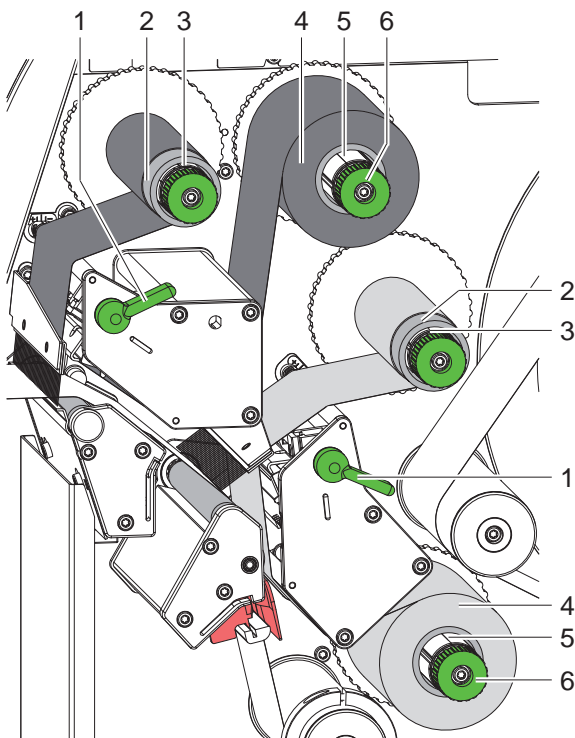

Fig. 14 Loading transfer ribbon
2. Turn lever (1) counterclockwise to open the printhead.
3. Slide transfer ribbon roll (4) onto the ribbon supply hub (5) until it stops and so that the color coating of the ribbon faces away from the printhead after loading.
4. Hold ribbon supply hub (5) firmly and turn knob (6) counterclockwise until the transfer ribbon roll is secured.
5. Slide suitable ribbon core (2) onto the transfer ribbon take-up hub (3) and secure it in the same way.
6. Guide transfer ribbon through the print unit as shown in the figure 14. The broken line shows the path for ribbon with ink inside out.
7. Secure starting end of transfer ribbon to the transfer ribbon core (2) with adhesive tape. Ensure counterclockwise rotation direction of the transfer ribbon take-up hub here.
8. Turn transfer ribbon take-up hub (3) counterclockwise to smooth out the feed path of the transfer ribbon.
9. Turn lever (1) clockwise to close the printhead.